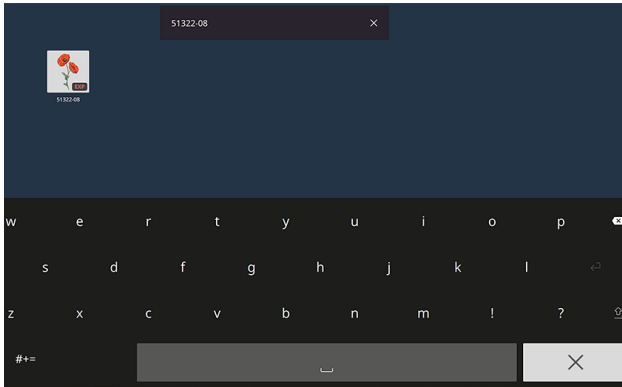

Fig. 5
4. Enter the design number, 51322-08, using the number pad. As the numbers are input, the search preview narrows down all designs that include the input number. Eventually, the search will narrow down to the exact number (Fig. 5).